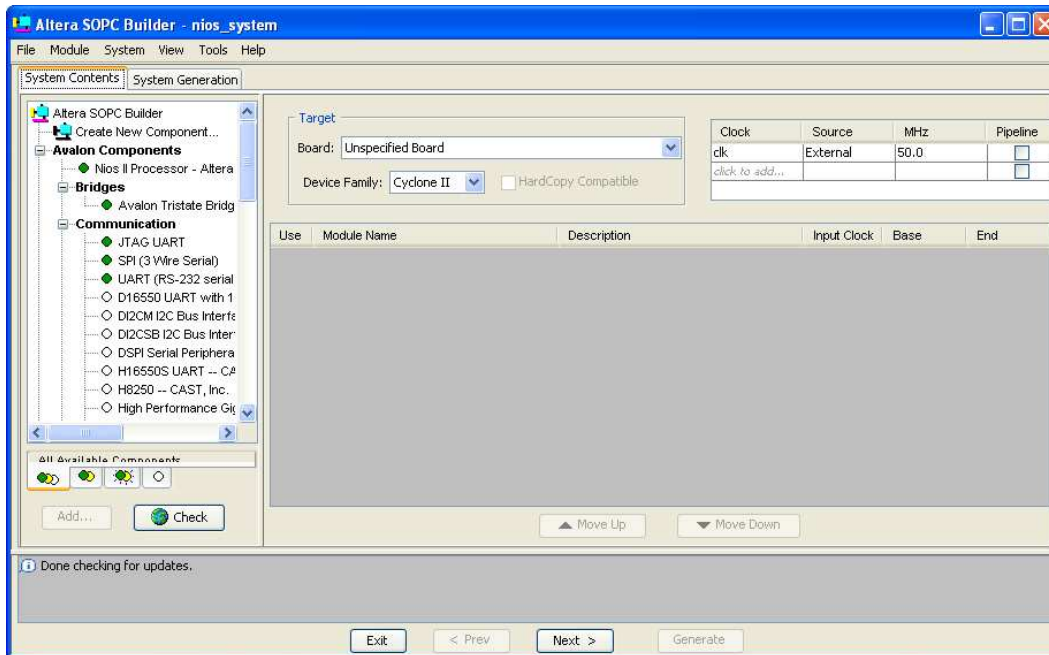
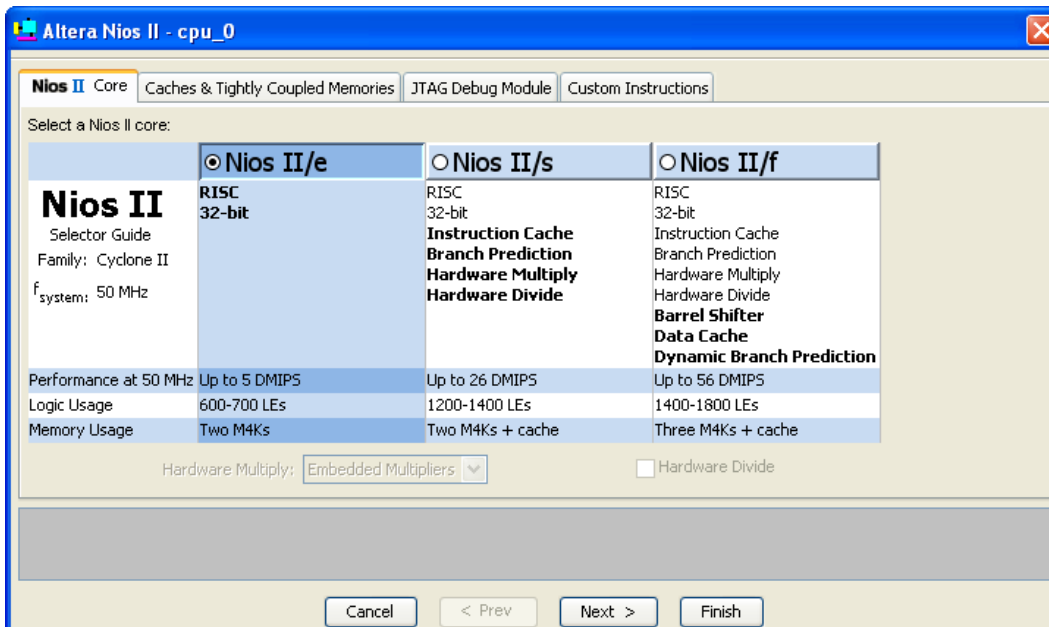
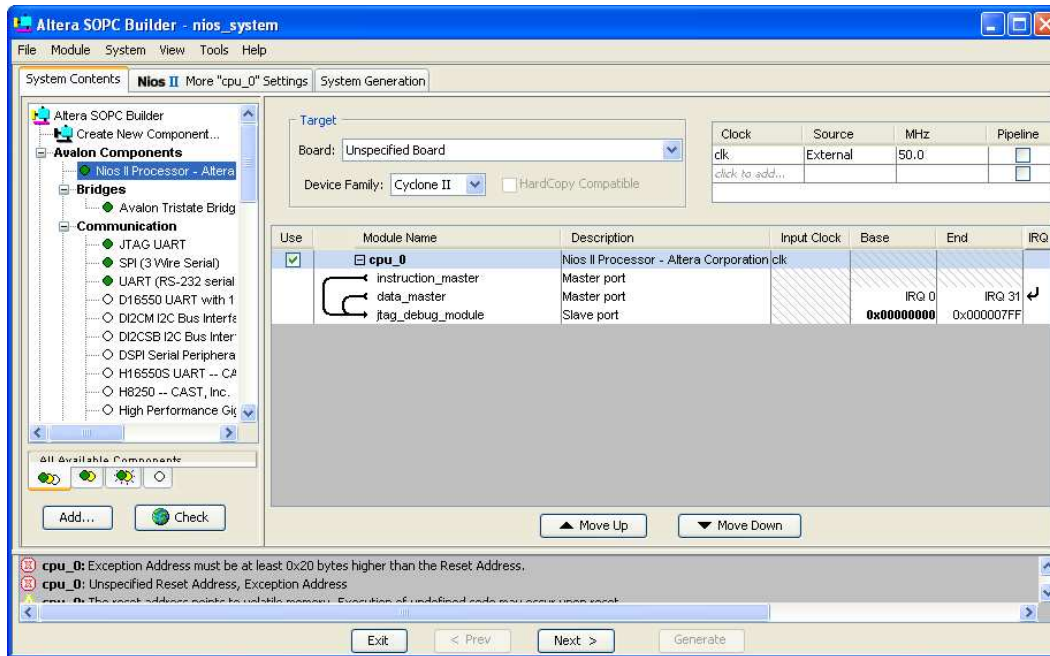

Figure 5. The System Contents tab window.
Figure 6. Create a Nios II processor.
Figure 7. The defined processor.
2. Select Tools > SOPC Builder, which leads to the pop-up box in Figure 4. Enter *nios_system* as the system name; this will be the name of the system that the SOPC Builder will generate. Choose Verilog as the target HDL, in which the system module will be specified. Click OK to reach the window in Figure 5.
3. Figure 5 displays the System Contents tab of the SOPC Builder, which is used to add components to the system and configure the selected components to meet the design requirements. The available components are listed on the left side of the window. Before choosing our components, examine the area in the figure labeled **Target**. A drop-down list is provided that allows some available Altera boards to be selected. It is not necessary to select a board, and since the DE2 board is not included in the list leave the selection as Unspecified board. Next, check the setting for the Device Family and ensure that Cyclone II is selected.
4. The Nios II processor runs under the control of a clock. For this tutorial we will make use of the 50-MHz clock that is provided on the DE2 board. As shown in Figure 5, it is possible to specify the names and frequency of clock signals in the SOPC Builder display. If not already included in this list, specify a clock named *clk* with the source designated as External and the frequency set to 50.0 MHz.
- On the left side of the window in Figure 5 select Avalon Components > Nios II Processor - Altera Corporation and click Add, which leads to the window in Figure 6.
- Choose Nios II/e which is the simplest version of the processor. Click **FINISH** to return to the window in Figure 5, which now shows the Nios II processor specified as indicated in Figure 7. There may be some warnings or error messages displayed in the SOPC Builder Messages window (at the bottom of the screen), because some parameters have not yet been specified. Ignore these messages as we will provide the necessary data later. Observe also that a new tab called **Nios II More “cpu_0” Settings** appears, which allows further configuration of the processor - we will not use it.